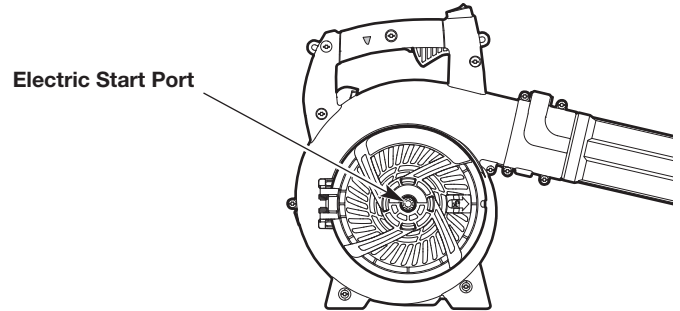

Fig. 8
5. Insert the electric start accessory into the electric start port (Fig. 8).